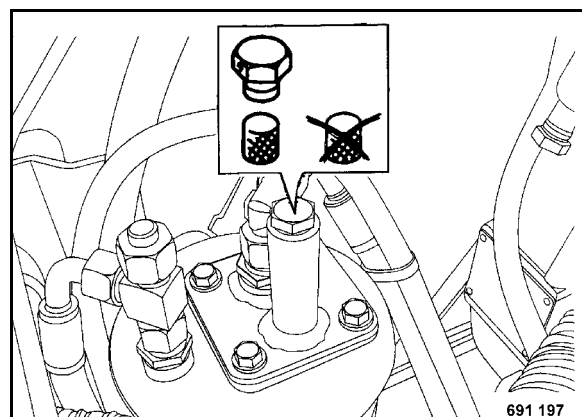

Fig. 75
- Unscrew the plug and take out the breather filter plug (Fig. 75).